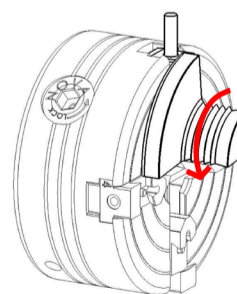

FIG 5
1. With the Lock Push Pin fully depressed in, slide the Jaw anti-clockwise in a circular motion Out of the Jaw Slide. Remove the Pin holding the lock push pin. (Figure 5). Repeat for all remaining Jaws.